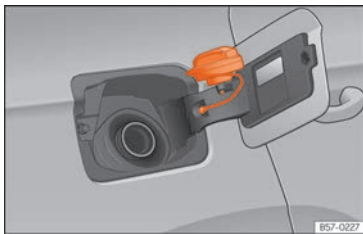

Fig. 183 Fuel tank flap with tank cap attached.
- Place it in the space on the hinge of the open flap >>> Fig. 183.